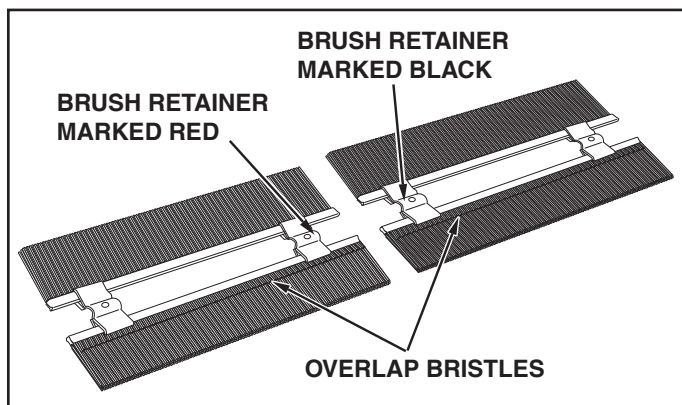

FIGURE 1
- (2) 7/16" Wrenches
- Each brush assembly has one brush retainer marked with either red or black ink. Lay out the brush assemblies as shown so that the brush retainers marked with ink are in the middle with the black one on your right and the red one on your left. See figure 1.